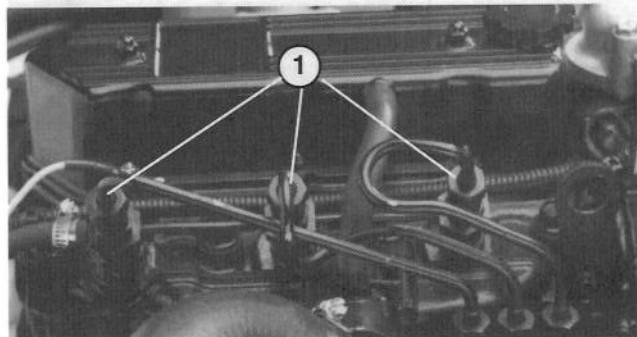

Figure 41
BLEEDING AIR FROM INJECTORS (Fig. 41)
- Loosen the pipe connection to the No. 1 nozzle and holder assembly (Fig. 41).